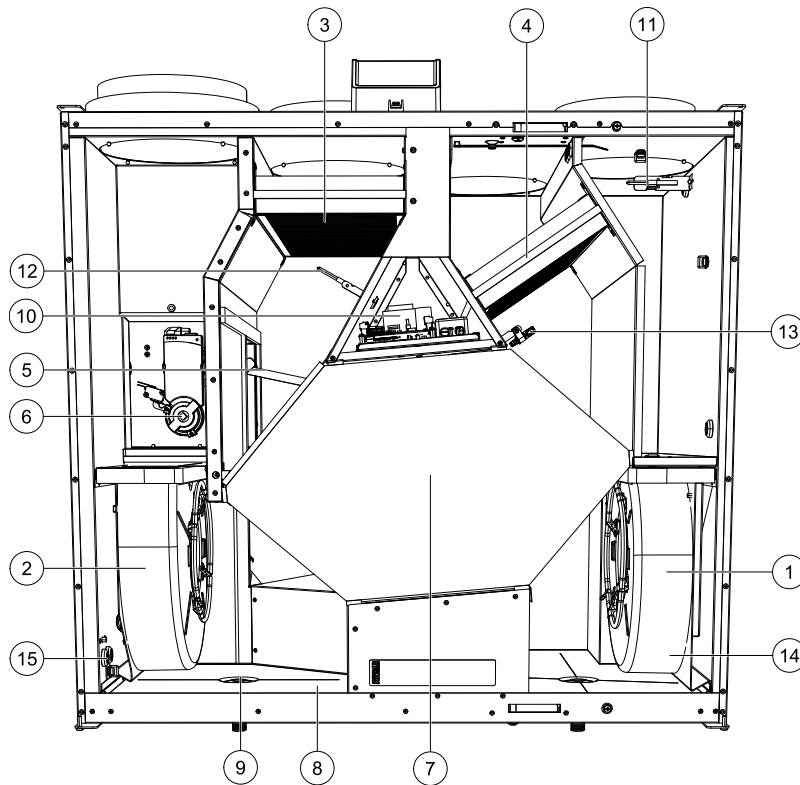

Fig. 9 Components
The built in bypass damper (pos. 5 figure 9) is involved in defrosting, cool recovery, and supply air temperature control of the unit. The damper motor is controlled by an analogue 0–10 V signal.
- Supply air sensor (pos. 14 figure 9)
- Outdoor air sensor (pos. 15 figure 9)
- Extract air sensor (pos. 16 figure 9).